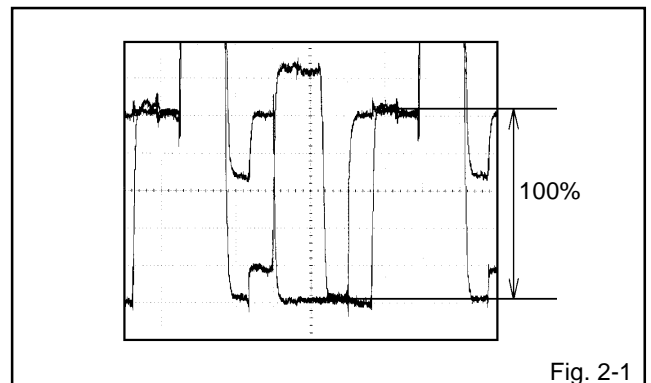

Fig. 2-1
6. Press the VOL. +/- button on the remote control until the red color level is adjusted to  $100 \pm 10\%$  of the white level. (**Refer to Fig. 2-1**)